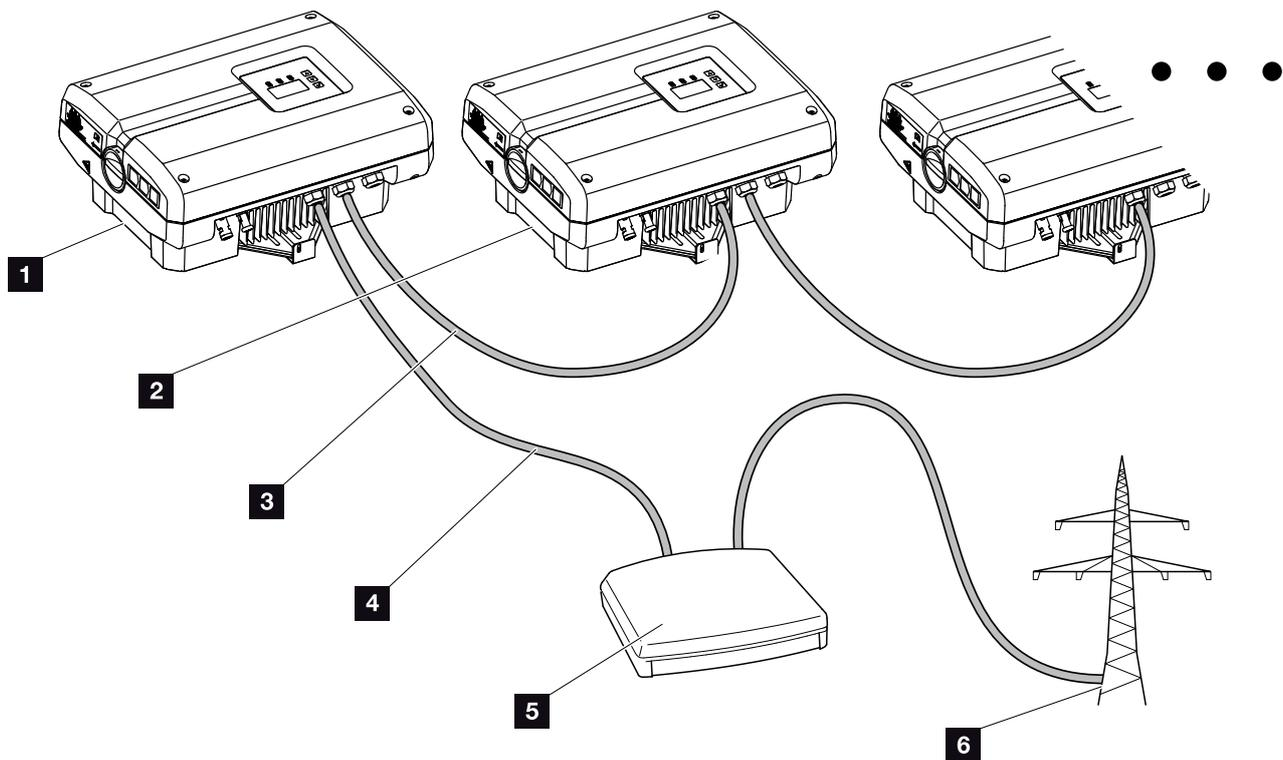
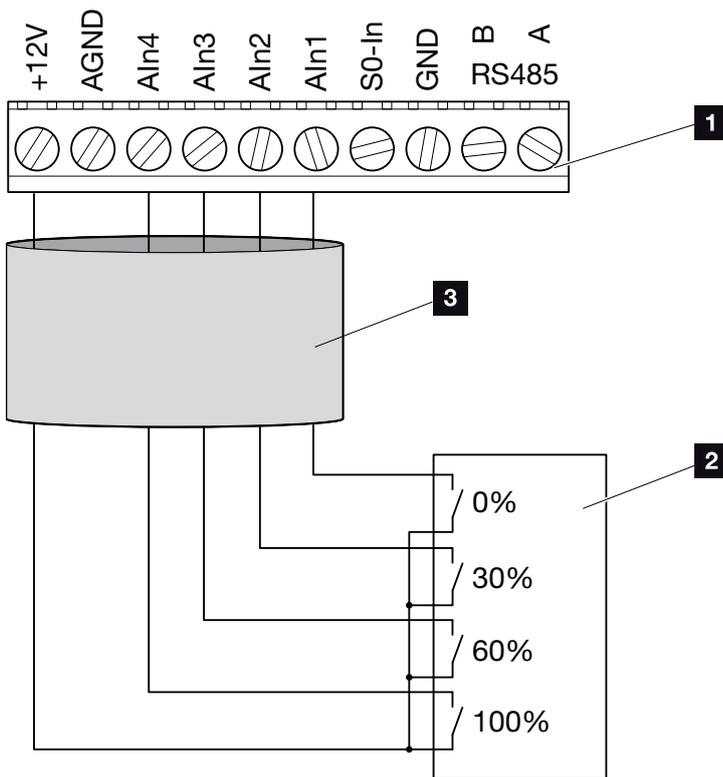

Fig. 54: Configuration of the ripple control receiver with several inverters (Ethernet networking)
Fig. 55: Connection of ripple control receiver
- ☑ **Fig. 54**
3. Connect the ripple control receiver to the master inverter ☑ **Fig. 54 It. 1** on the analog interface terminal (10-pin). ☑ **Fig. 55** !
The ripple control receiver may only be connected at the master inverter. ☑ Fig. 54